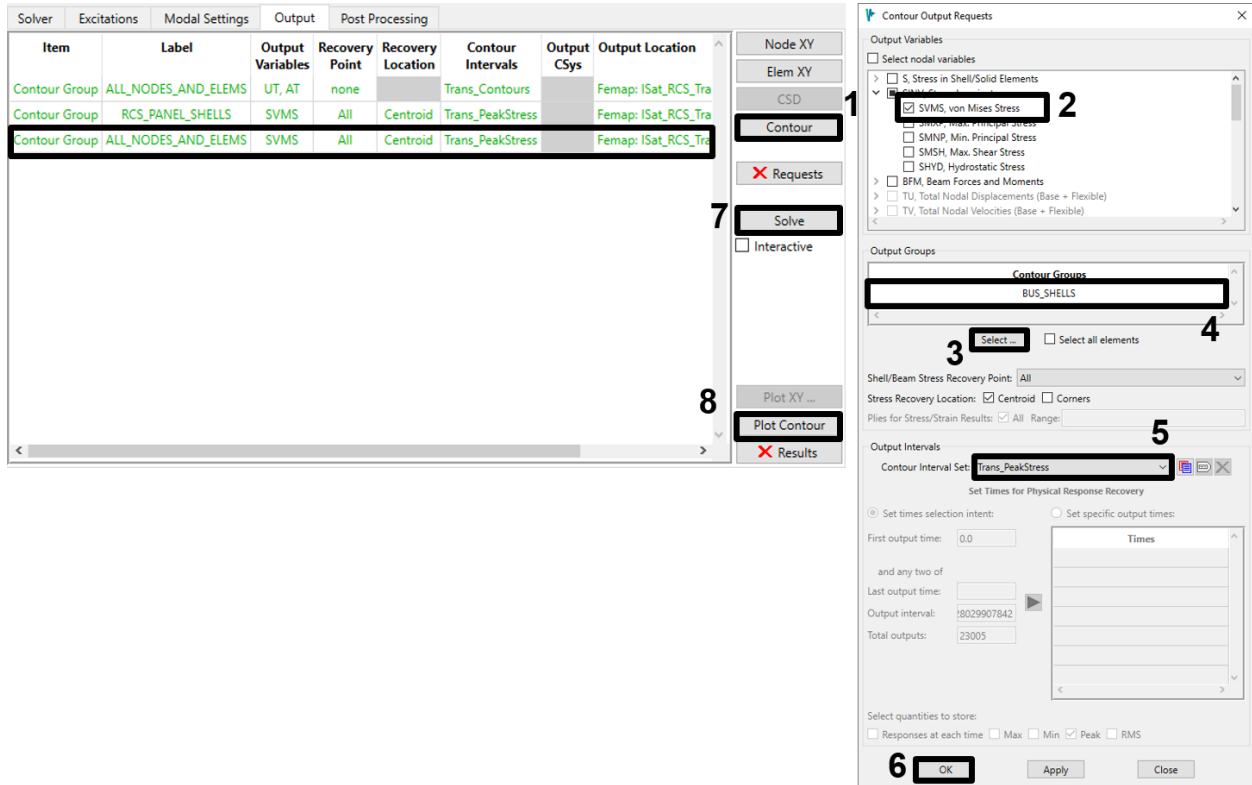
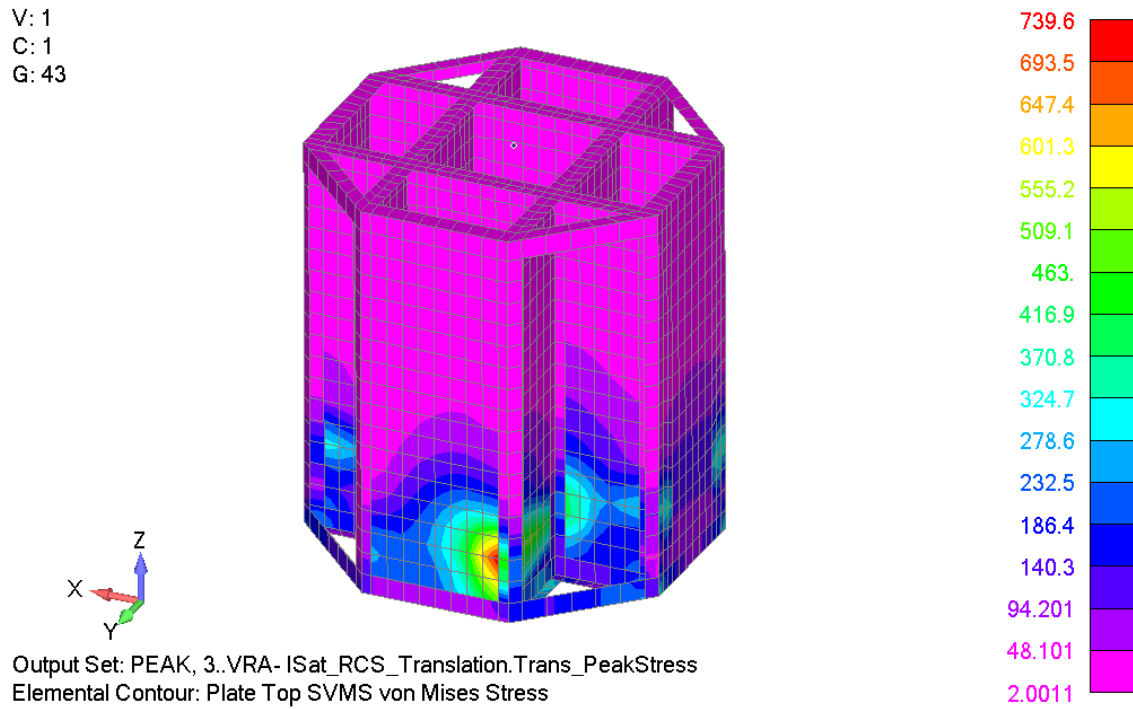

Figure 4-106. Select the BUS_SHELLS contour request and plot its results.
Figure 4-107. Von Mises results with only the BUS_SHELLS group displayed.
11. There appears to be a significant stress concentration where the instrumentation package support attaches to the bus. Create a contour request for the peak stresses in the BUS_SHELLS group with the same settings used for the RCS panels. Solve this new request, then select it in the table and click **Plot Contour** again (Figure 4-106). This time, display only the BUS_SHELLS group in the contour plot (Figure 4-107). There is indeed a stress concentration, and the stress is nearly seven times higher than in the RCS panels.